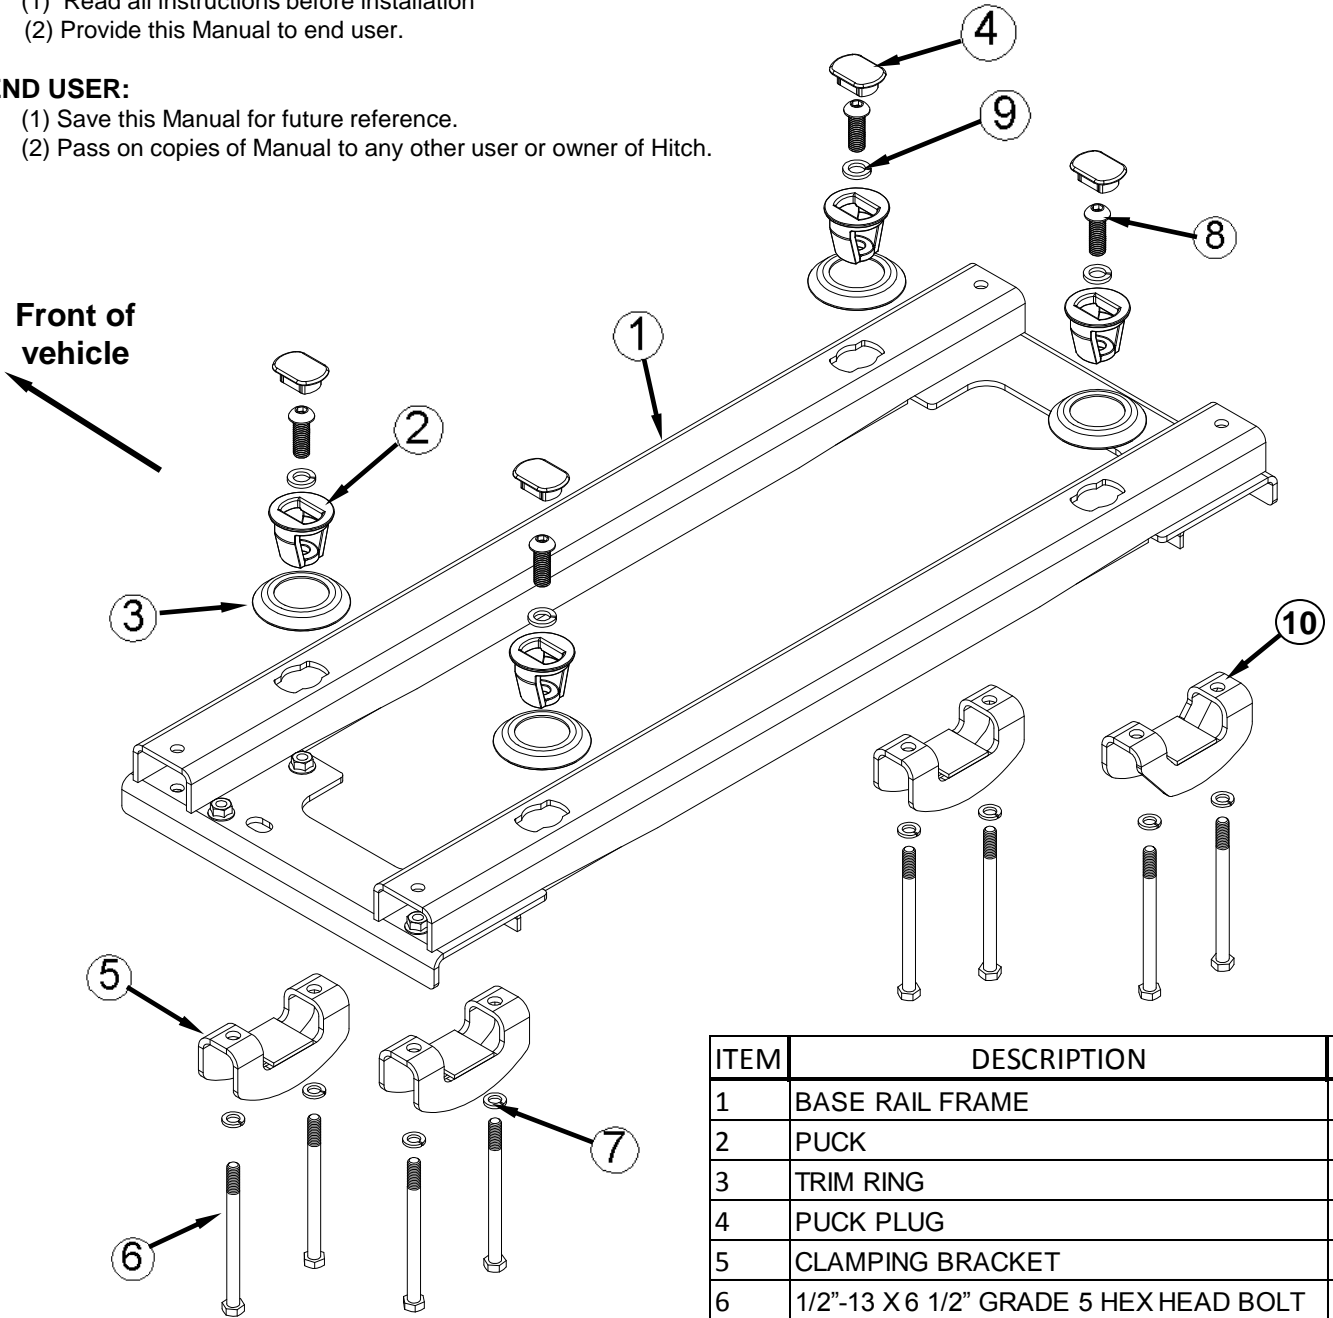

Figure 1
1. The following instructions should be used to mount the fifth wheel. Care and attention to detail will ensure a quick quality installation. Check parts against parts list to become familiar with parts in kit. (**Figure 1**)